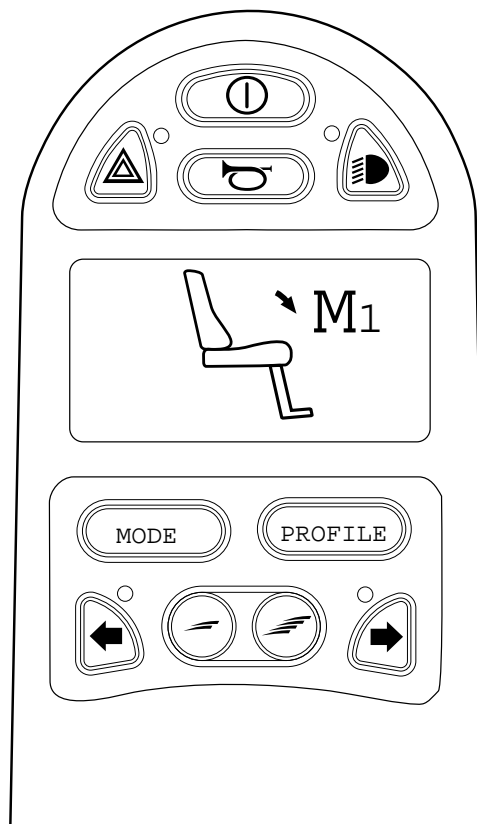

Figure 42. Save function activated
4. Move the joystick backwards to activate the "save" function. An arrow will appear next to the memory symbol "M" – see fig. 42.